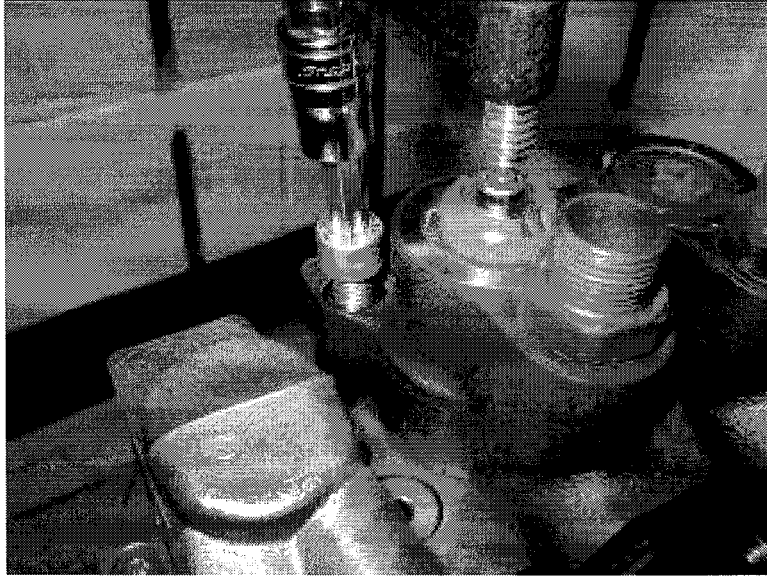

Figure 13 – High Pressure Fuel Pump Element Installation
21. Torque the two T-50 Torx bolts to 42 Nm (31 lb-ft). See Figure 13.